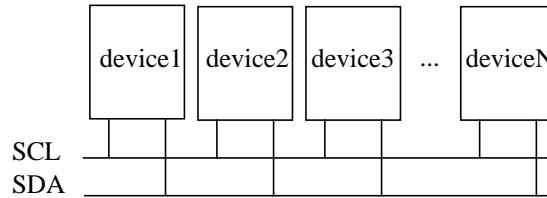

Figure 25. I²C bus configuration
This section describes the I²C. In the rest of the section SSLC means I²C. The I²C bus is a bi-directional two-wire serial communication standard. It is designed primarily for simple but efficient integrated circuit (IC) control. The system is comprised of two lines, SCL (Serial Clock) and SDA (Serial Data) that carry information between the ICs connected to them. The serial data transfer is limited to 100Kbit/s in standard mode. Various communication configuration can be designed using this bus. Figure 25 shows a typical I²C bus configuration. All the devices connected to the bus can be master and slave.